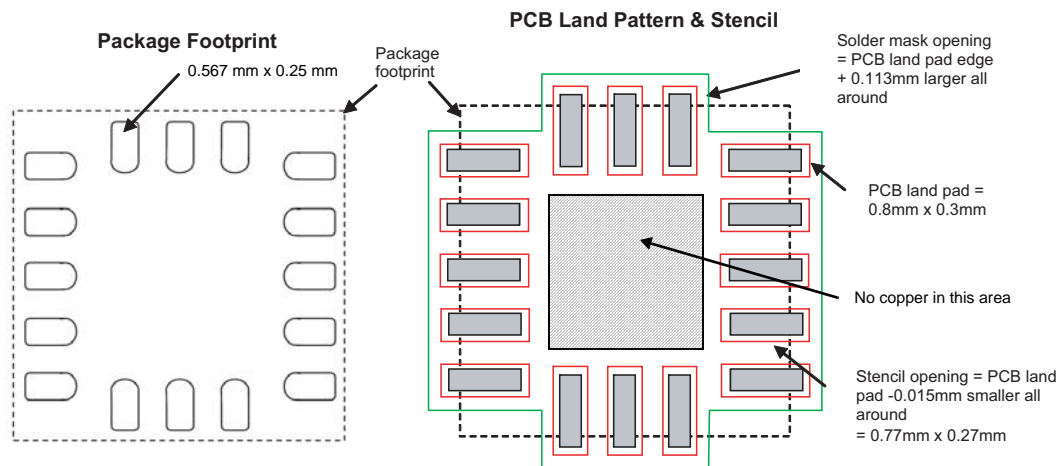
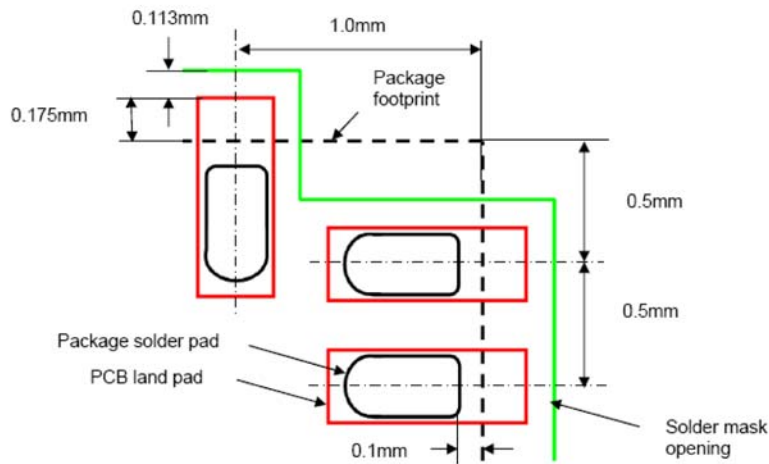

Figure 18. Recommended PCB land pattern, solder mask, and stencil opening near package footprint
Figure 19. Detailed dimensions
1. The PCB land should be designed with Non-Solder Mask Defined (NSMD) as shown in Figure 18 and Figure 19.
3. PCB land pad is 0.8 mm by 0.3 mm as shown in Figure 18 and Figure 19.